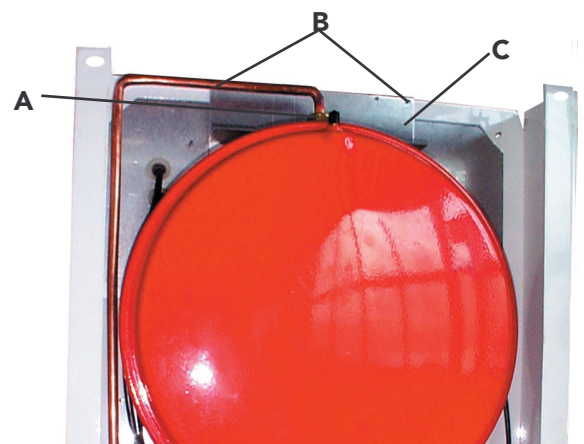

Fig. 25
7.04 Remove and re-pressurising of C.H. expansion vessel (fig. 25)